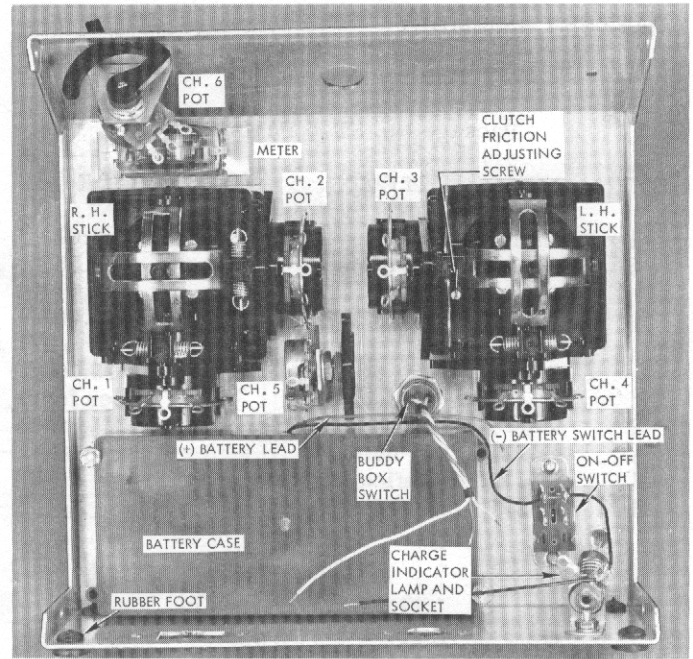
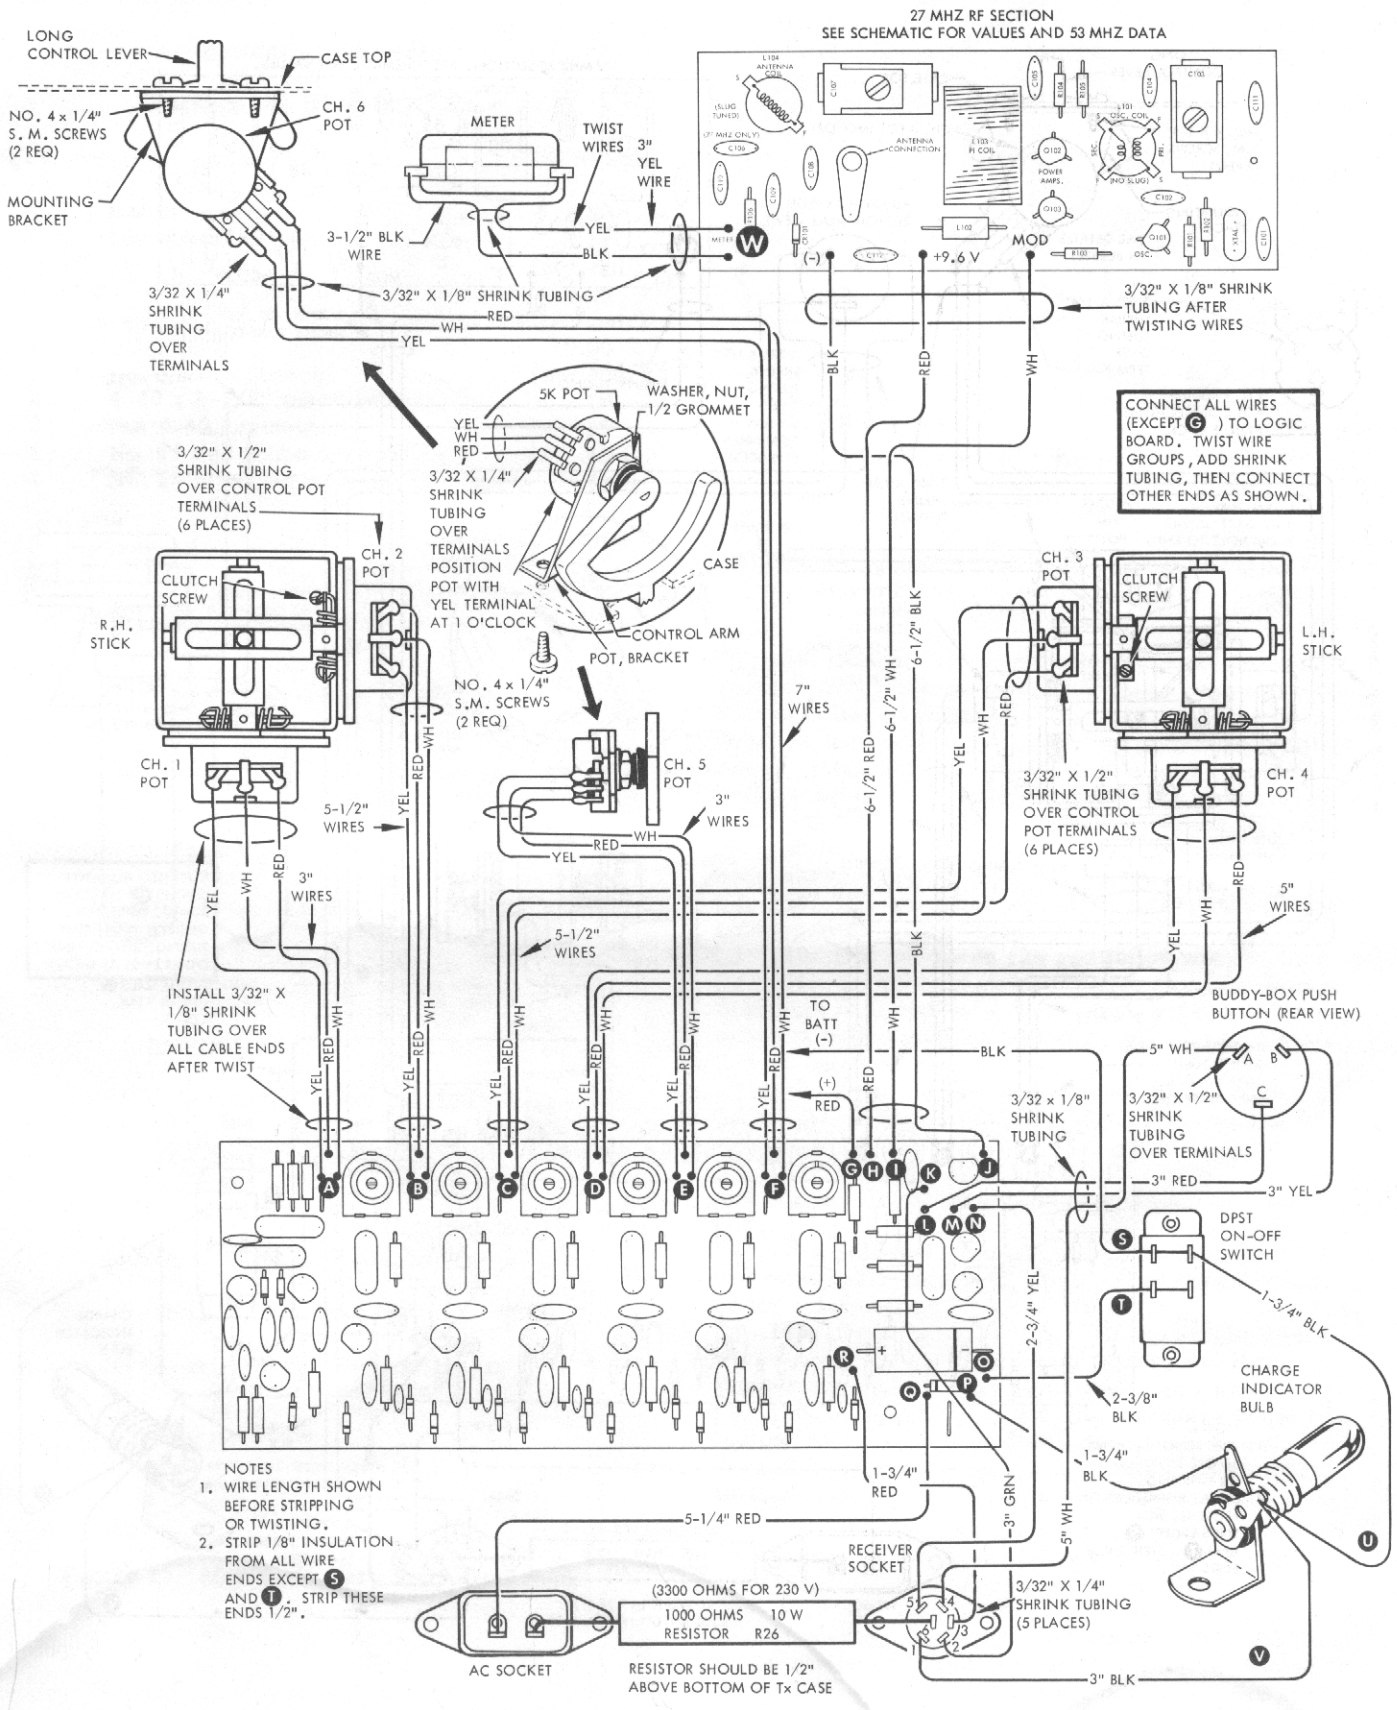

Figure 17. Interior View, Two-Stick Mechanics
Figure 24. Transmitter Wiring (Two-Stick)
155. On two-stick transmitters, install one each right-hand and left-hand stick in transmitter case. Be sure sticks are positioned so that clutch adjusting screw on LH stick is located as shown in figure 17. Stick fits into case from rear, chrome face plate from the front. Four No. 2-56 x 5/16" flat head machine screws fit through front side of face plate to secure stick in position.
- 160. Tighten clutch adjusting screw on LH stick (figure 17) until motor control stick has desired amount of friction in the vertical plane.
- 177. On all models: Turn Tx switch OFF. Solder one end of 1-3/4" black wire from Group **U** and one end of 3" black wire from Group **V** to outer lug on lamp socket. (Figures 24 and 25) Connect other end of short black wire to upper RH switch terminal (viewed from rear). Do not solder.
- 179. From the front side, insert push button switch harness wires through Buddy Box switch hole in case (figures 17 and 18). Secure switch to case with lockwasher and nut threaded on from the rear (figure 14). Route wires as shown.
- 180. On the single-stick model, a motor channel control pot assembly is required. Also, for all 5 and 6-channel models, a control pot assembly is needed for each extra channel. (Figures 17 and 18) To make these, assemble small 5K pot to bracket with lockwasher and nut. (Figures 24 and 25) Be sure pot is mounted to bracket in the same relative position
- 186. Check your transmitter against parts arrangement in figures 17 or 18 for possible errors or omissions.
TRANSMITTER FINAL ASSEMBLY (See Figures 24 and 25)